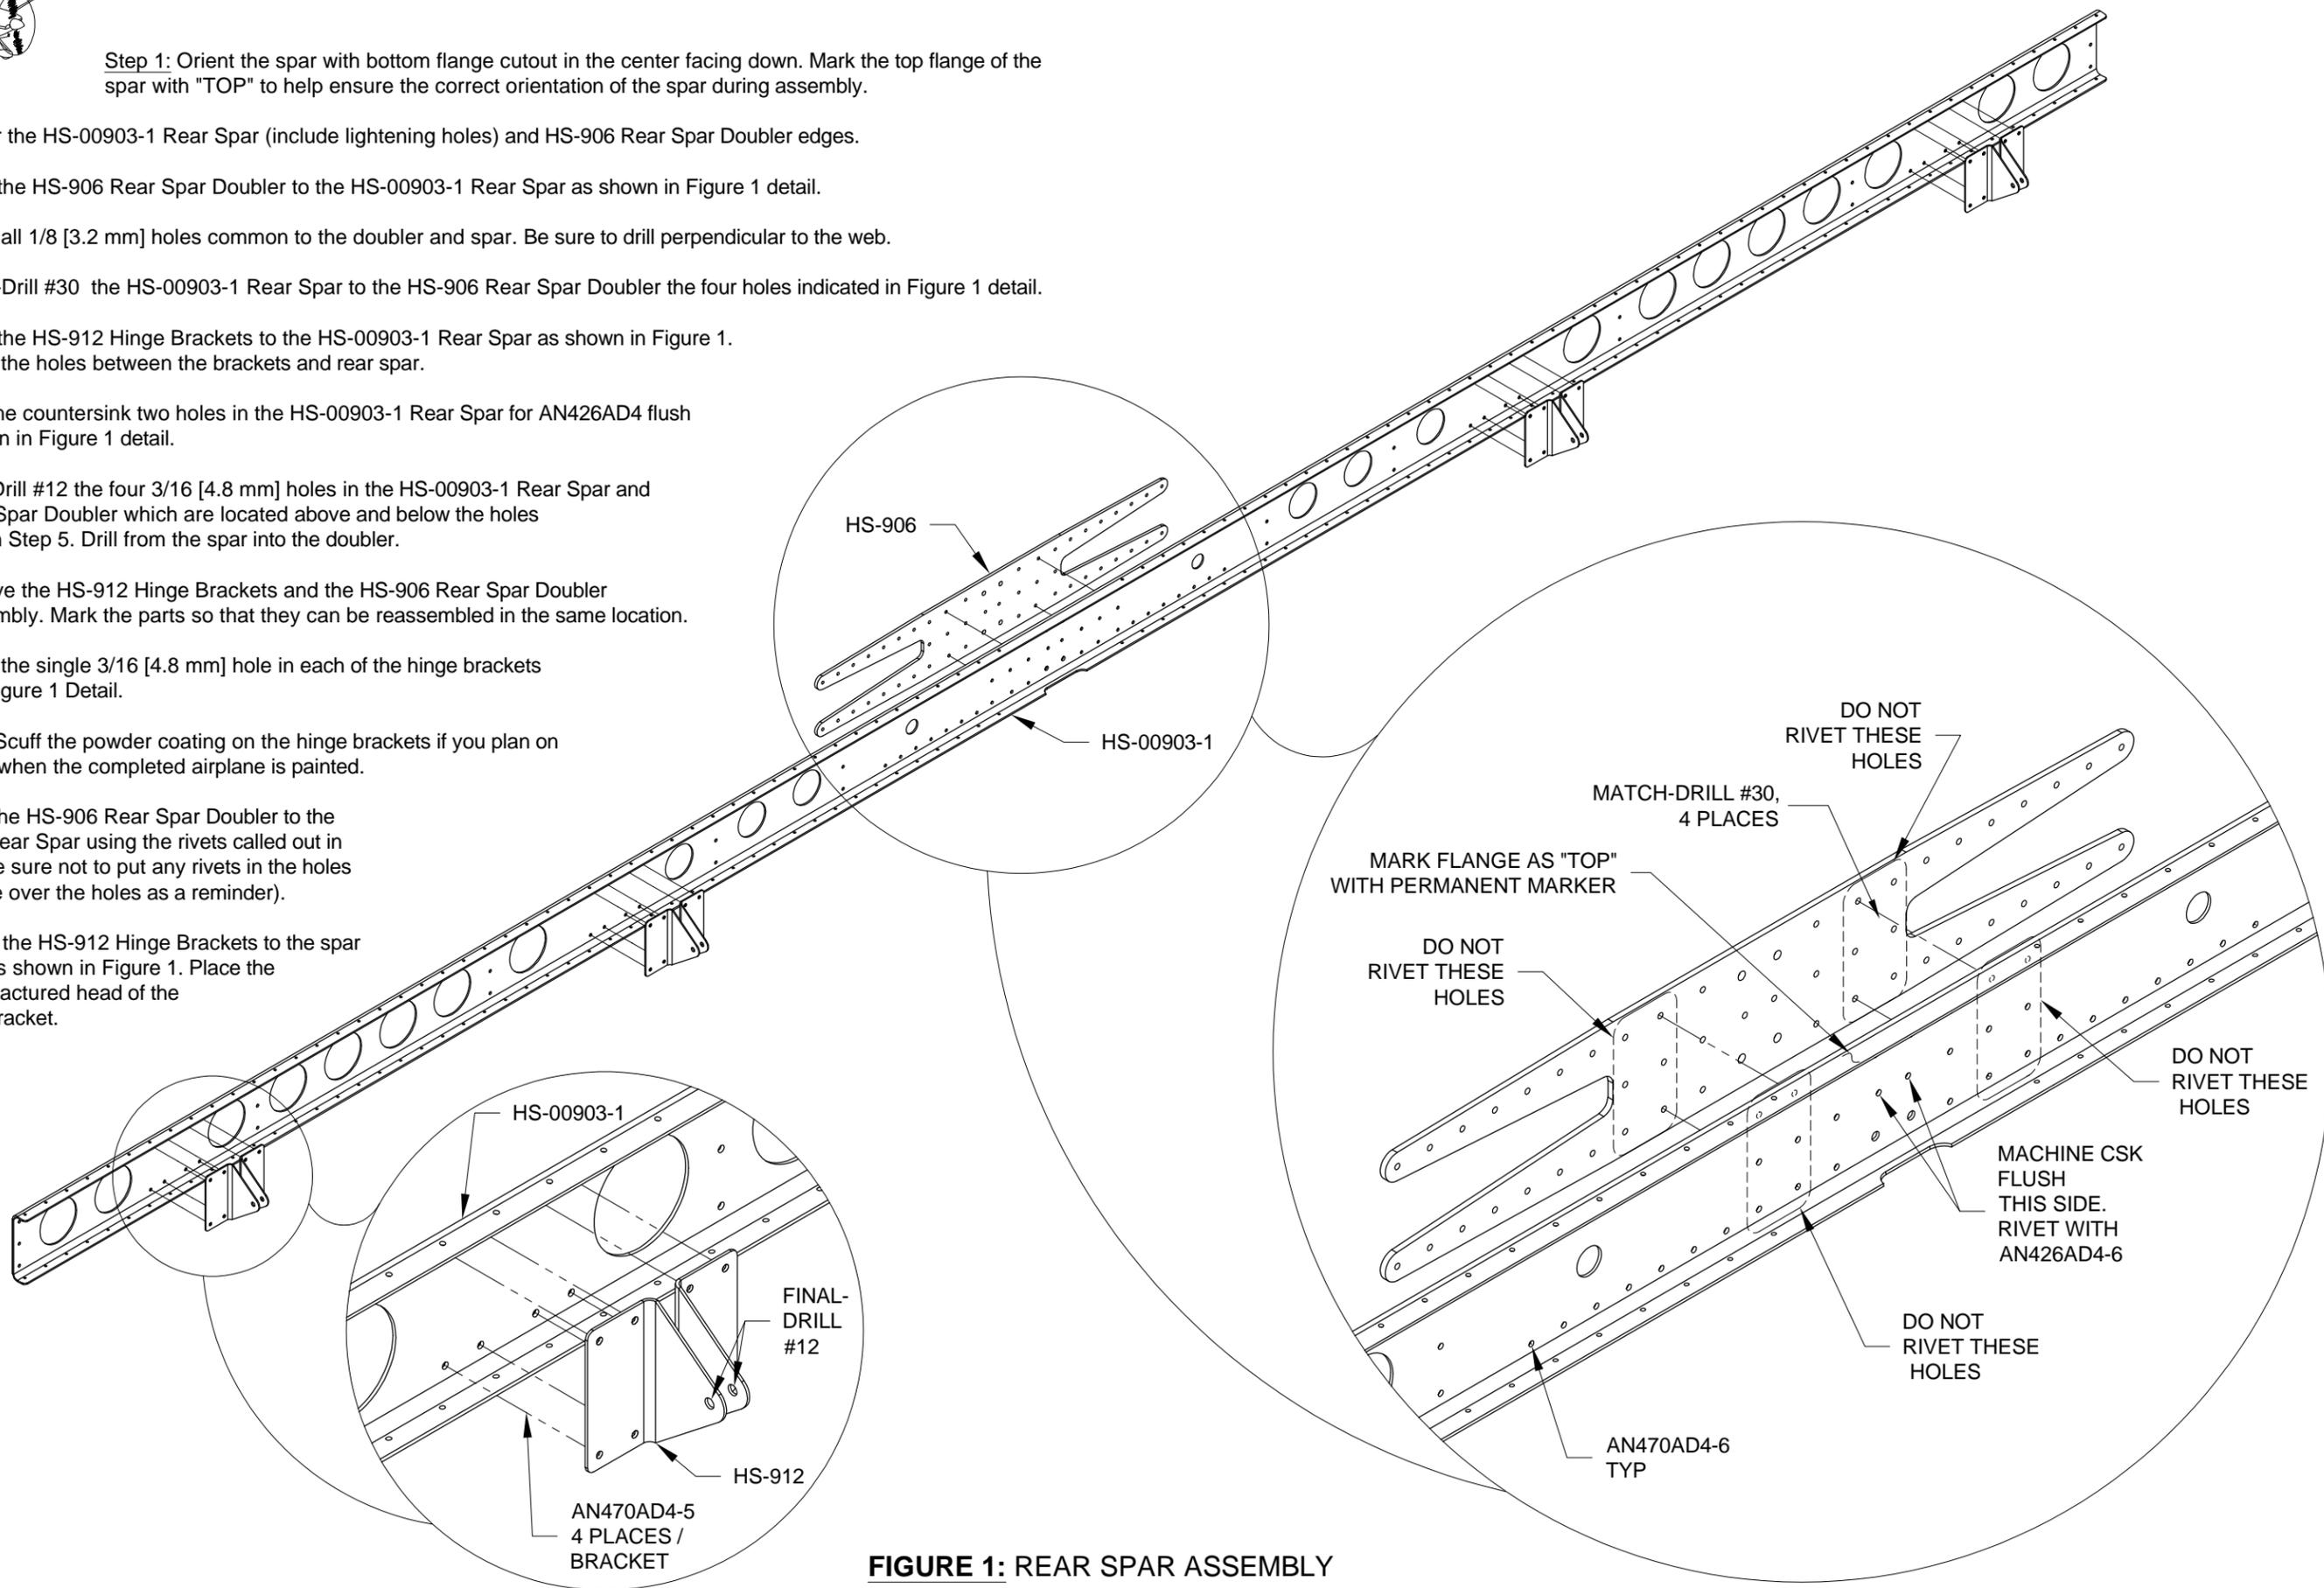

FIGURE 1: REAR SPAR ASSEMBLY
Step 9: Rivet the HS-906 Rear Spar Doubler to the HS-00903-1 Rear Spar using the rivets called out in Figure 1. Make sure not to put any rivets in the holes indicated (tape over the holes as a reminder).
Step 10: Rivet the HS-912 Hinge Brackets to the spar using the rivets shown in Figure 1. Place the domed, manufactured head of the rivets on the bracket.
Step 1: Cleco the VA-146 Flange Bearing between the two HS-911 Inboard Hinge Brackets as shown in Figure 1.